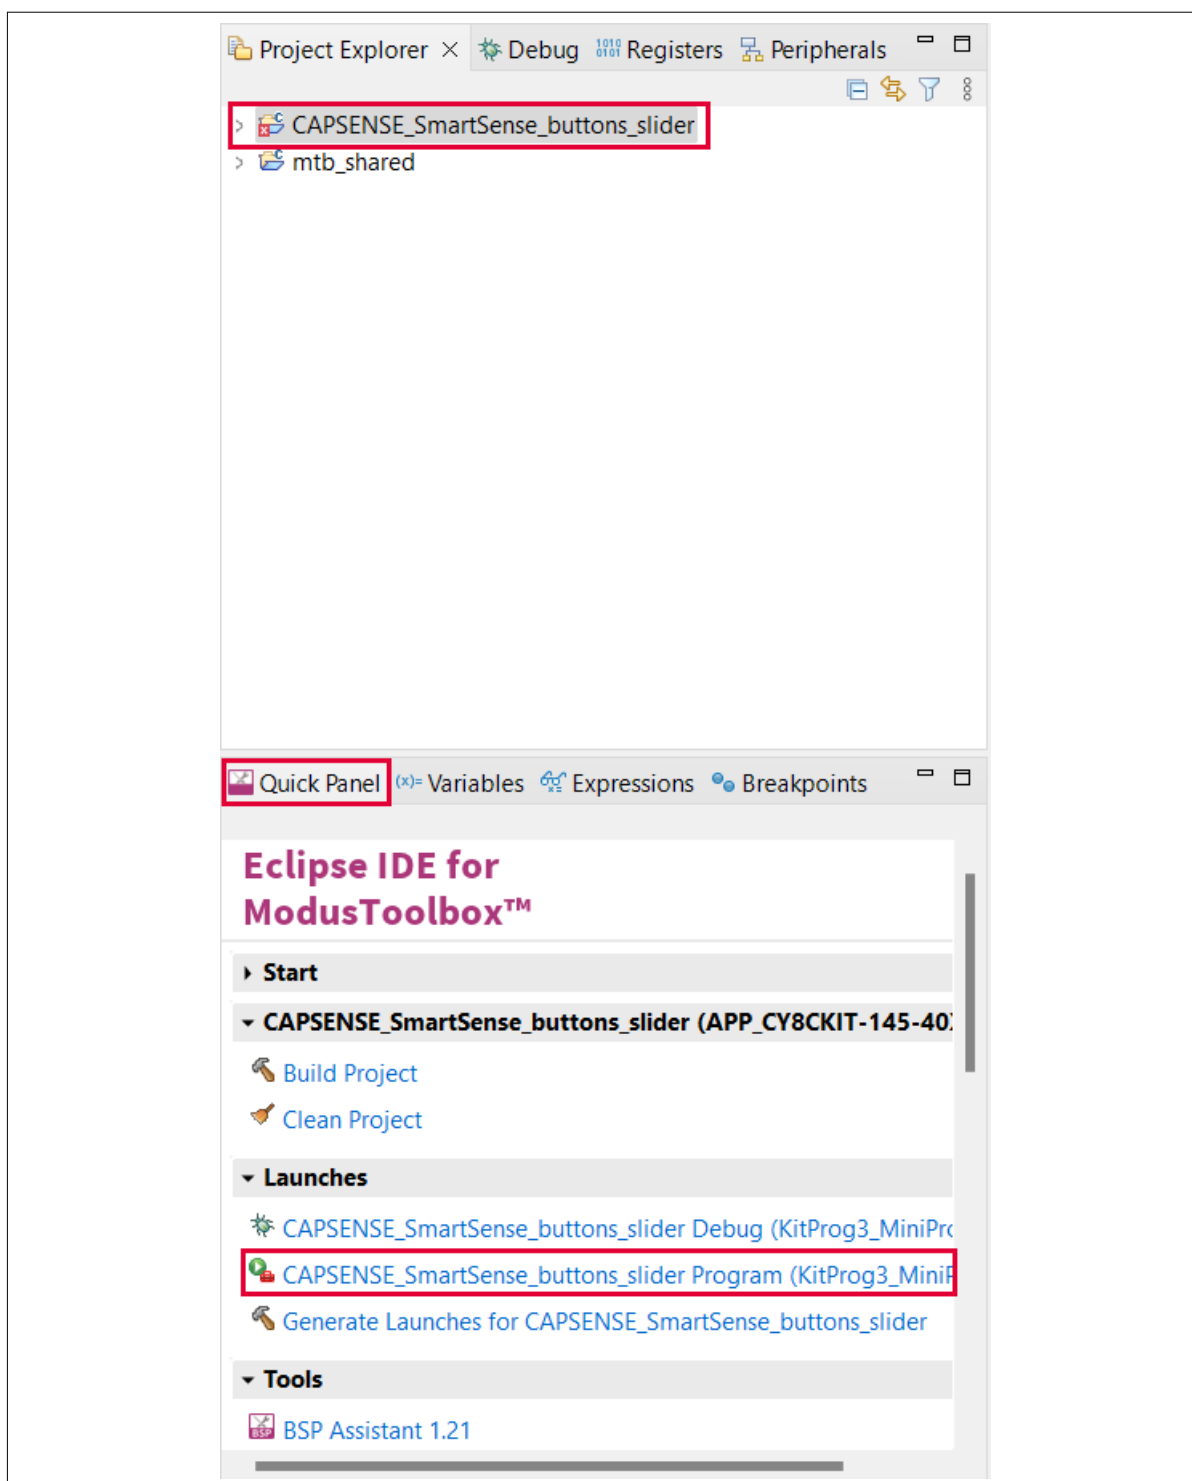

Figure 13 Building and programming the code example
3. Select the project in the **Project Explorer** tab to build and program the PSOC™ 4000S device application. In the **Quick Panel** tab, scroll to the **Launches** section, and click the **Program (KitProg3_MiniProg4)** configuration, as shown in Figure 13